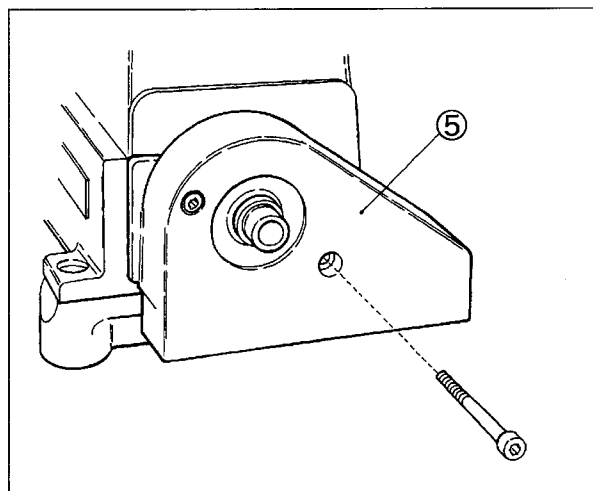

Fig. 11
- (1) Install the belt cover⑤. (See Fig. 11)